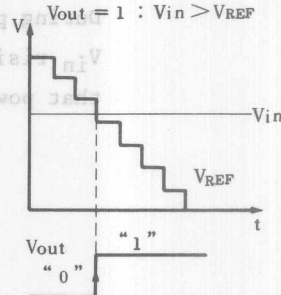

Fig. 4-7 Timing Chart
- (ii) The output V_{out} , which is the result of comparison between the analog input V_{in} and V_{REF} , is reversed from "0" to "1" when V_{in} is greater than V_{REF} as shown in Fig. 4-7.